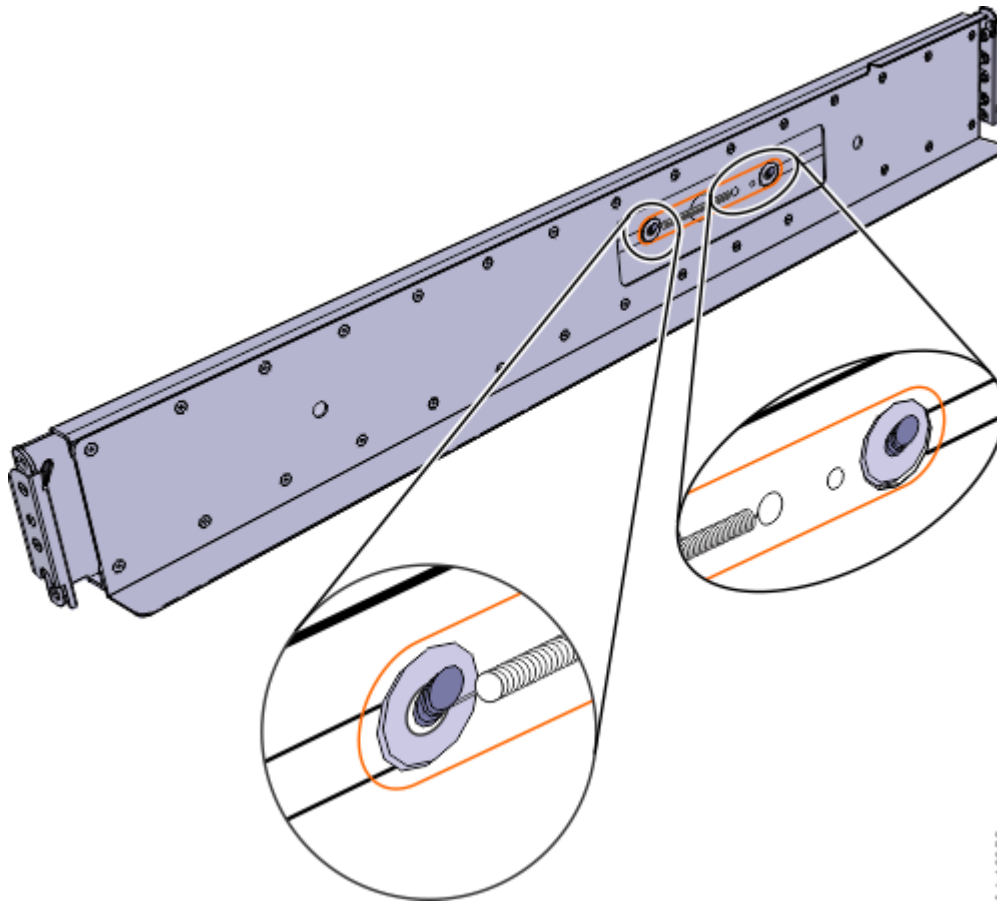

Figure 17. Installing the rail spring
- b) Push one looped end of a spring over one stud on the inside of the rail. (See Figure 17 on page 19.)